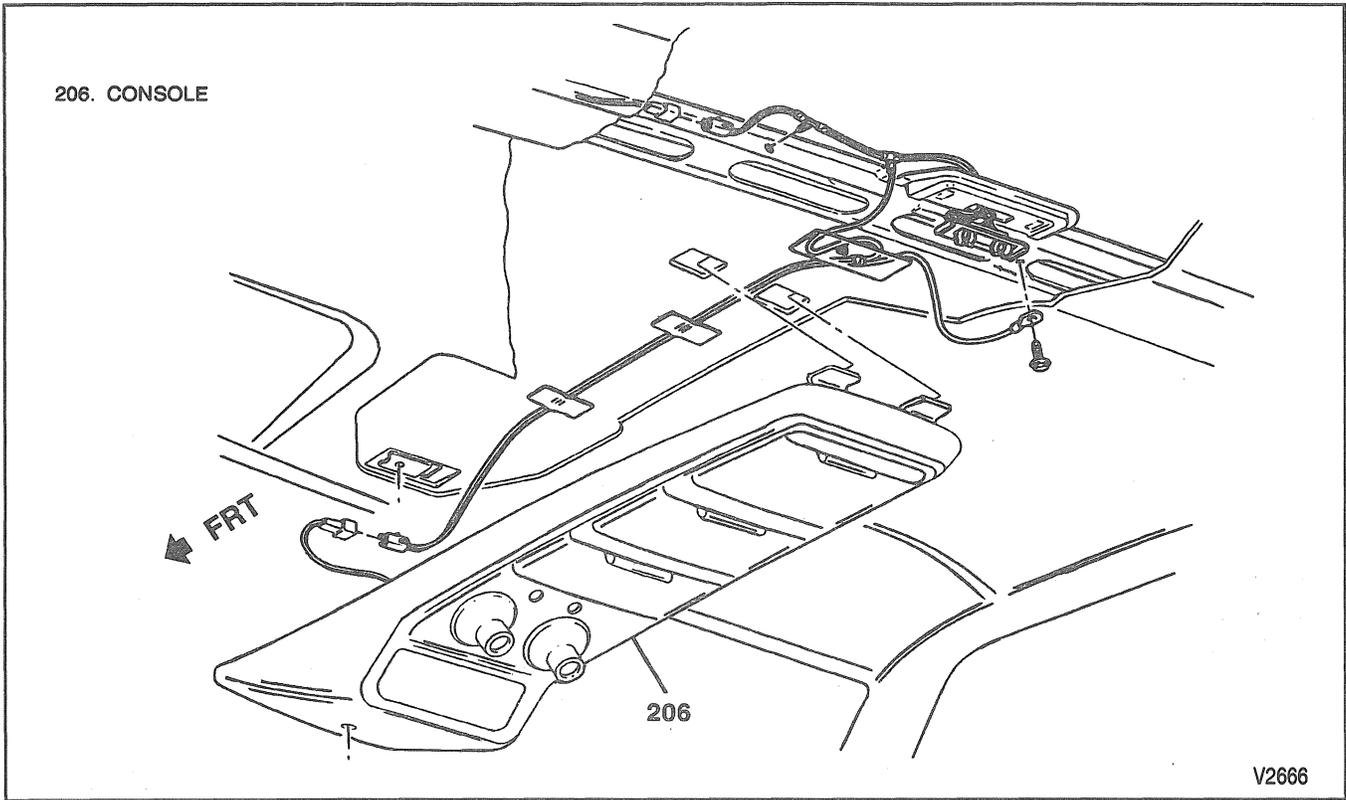

Figure 39—Overhead Console
**↔** Remove or Disconnect (Figure 39)
**↔** Install or Connect (Figure 39)